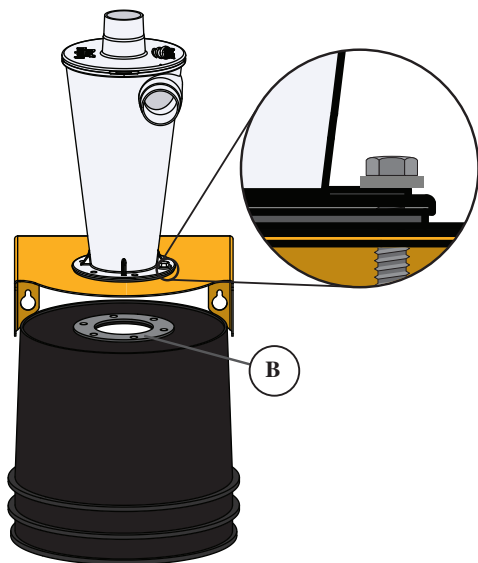
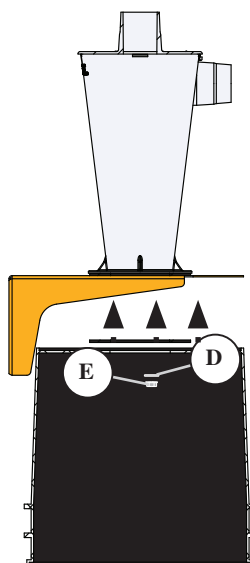

FIG. 10a
FIG. 10b
Place a Gasket (B) onto the Bin (G) and raise it up underneath the Wall Bracket (F) so that the descending Bolt (C) extends through the mounting holes on the Gasket and Bin [FIG 10a]. Secure everything in place using a Washer (D) and Whiz-Lock Nut (E) [FIG 10b].